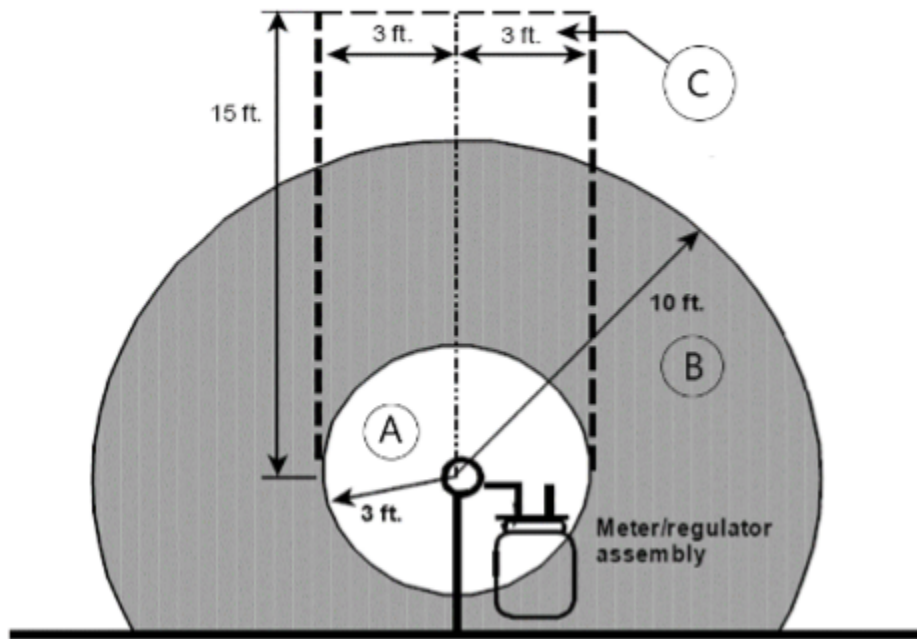

Figure 20. Natural gas regulator vent clearances
When determining where to terminate the vent to outdoors there are many clearance requirements that must be considered, such as building openings or exhaust vents. Figure 20 summarizes the clearance requirements as listed in the gas code for natural gas regulator vents. The diagram displays these requirements as they would relate to the vent outlet of a service regulator but these same clearances would apply to the outside termination of a vent from an inside the building regulator.
- Figure 20. “Natural gas regulator vent clearances” by Camosun College is licensed under a CC BY-NC-SA licence.